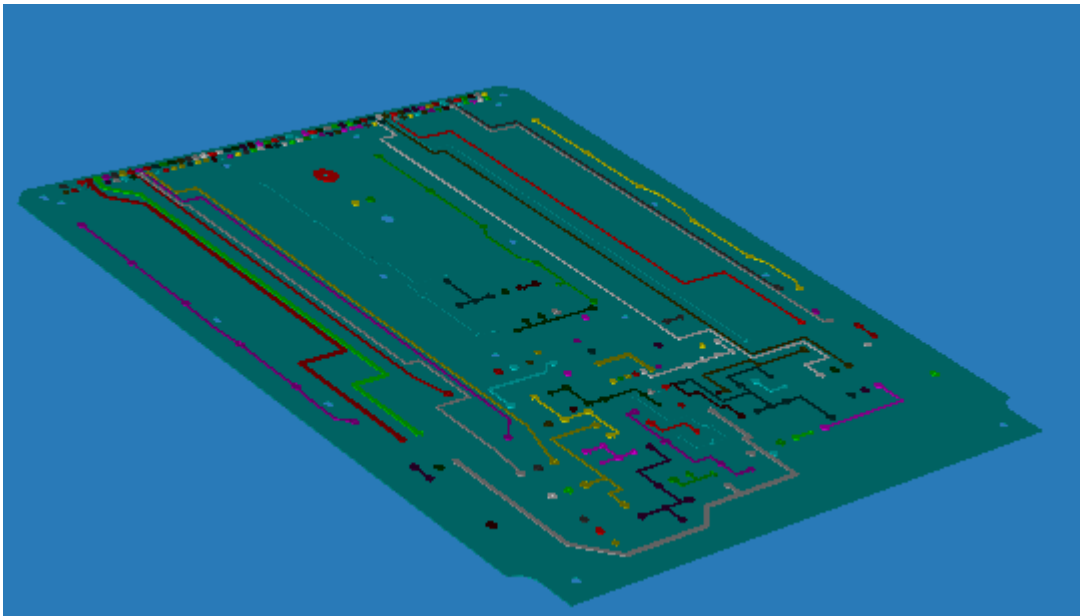

Figure 8. PCB design 3D view
- If PCB design is selected - only PCB data will be converted to 3D (see Figure 8):